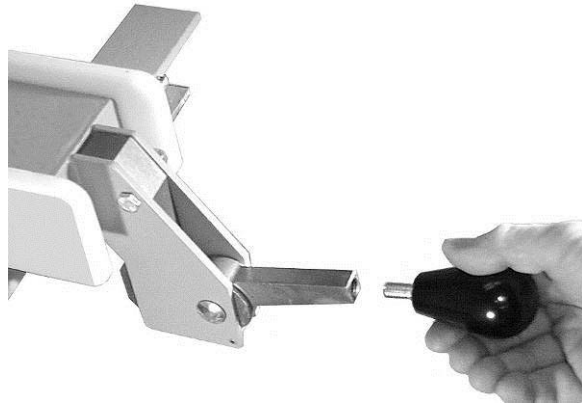

Figure 14
1. Screw the lock lever knob into the threaded handle on the Accu-Fence (see Figure 14).